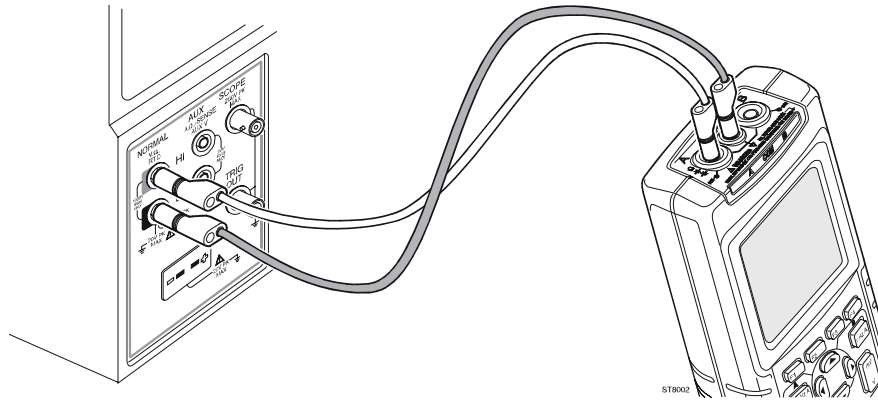

Figure 5-9. Capacitance Gain Calibration Input Connections
2. Connect the test tool to the 5500A as shown in Figure 5-9.
2. Connect the test tool to the 5500A as shown in Figure 5-9 (Section 5.6.8).